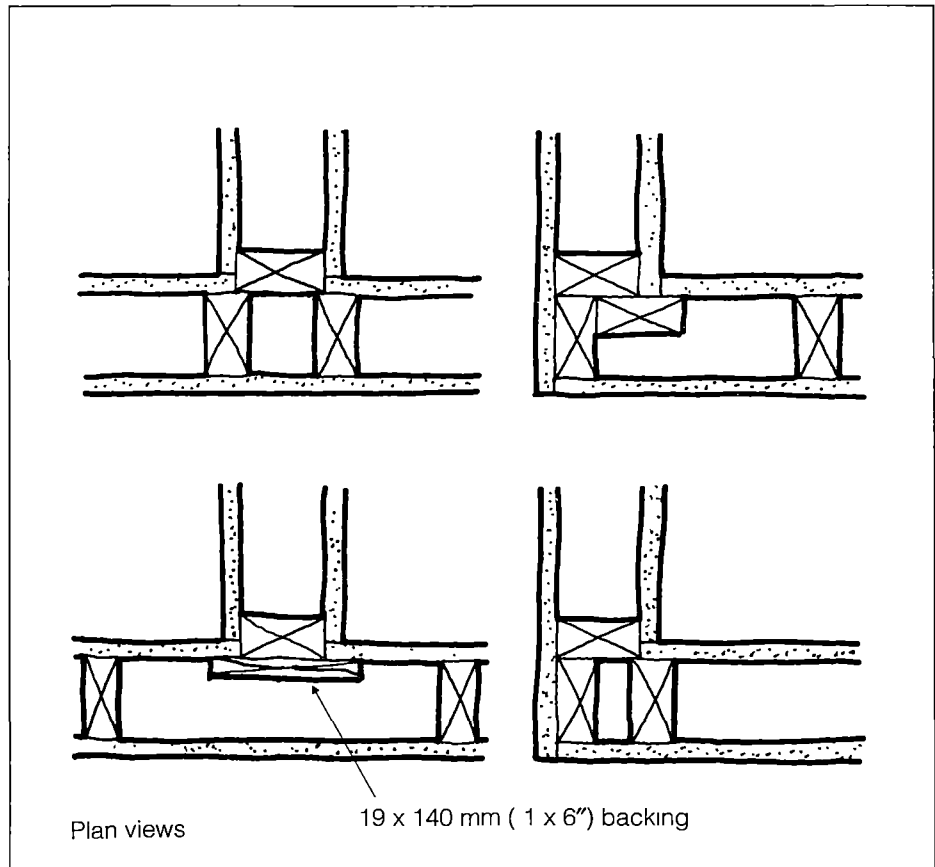

Fig. 17. Four alternatives for framing interior corners
- Avoid single-stud corners unless drywall clips are used. Provide adequate nailing surfaces, especially at interior corners (fig. 17).